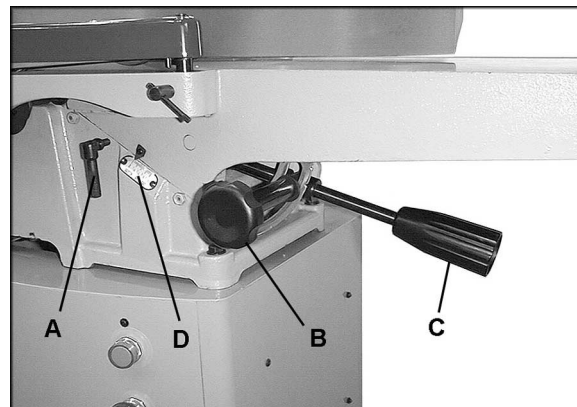

Figure 19
1. Loosen the lock screw (A, Figure 19) and the locking handle (B, Figure 19).
2. Raise or lower the height adjustment handle (C, Figure 19) until the scale (D-Figure 19) reads approximately the correct depth of cut.
3. Rotate the locking handle (B, Figure 19) until it is snug, then fine-tune the adjustment by rotating the height adjustment handle (C, Figure 19) until the scale reads exact. (Clockwise raises the table, counter-clockwise lowers the table.) A full rotation of the fine adjustment handle equals 1/16" travel of the infeed table.
4. When set, re-tighten lock screw (A, Figure 19).
Periodically check the accuracy of the depth of cut scale (D, Figure 19) by raising the infeed table until it is flush with the peak of the cutterhead arc (using a straight edge across table and cutterhead). The scale should read zero depth. If it does not, re-adjust the pointer above the scale.